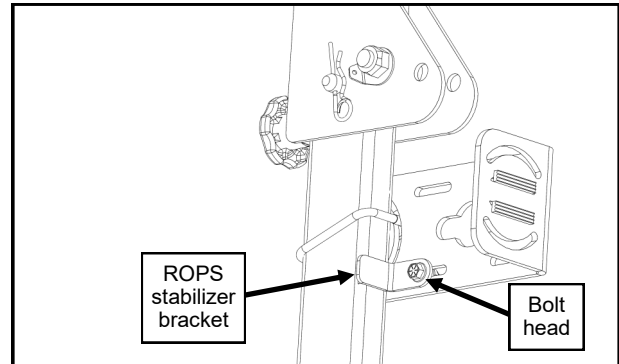

Fig. 6 (Install ROPS stabilizer bracket)
6. Per fig. 6, install the ROPS stabilizer bracket using one bolt and one locknut as shown. Make sure the bracket is tight up against the ROPS tubing before tightening the bolt in the slot. *It is recommended to use a C-clamp to clamp the stabilizer bracket to the ROPS tube prior to tightening the fastener.*